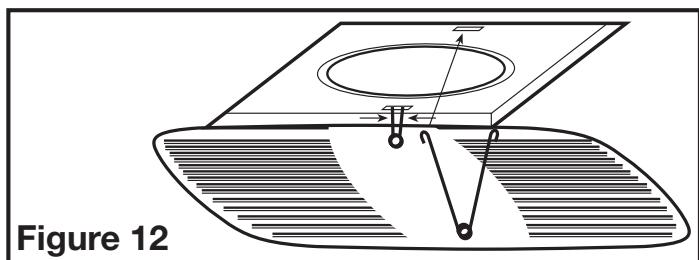

Figure 12
- Install the grill by squeezing the two ends of the springs together and installing them up into the slots of the fan's housing. Push the grill up into position (Figure 12).